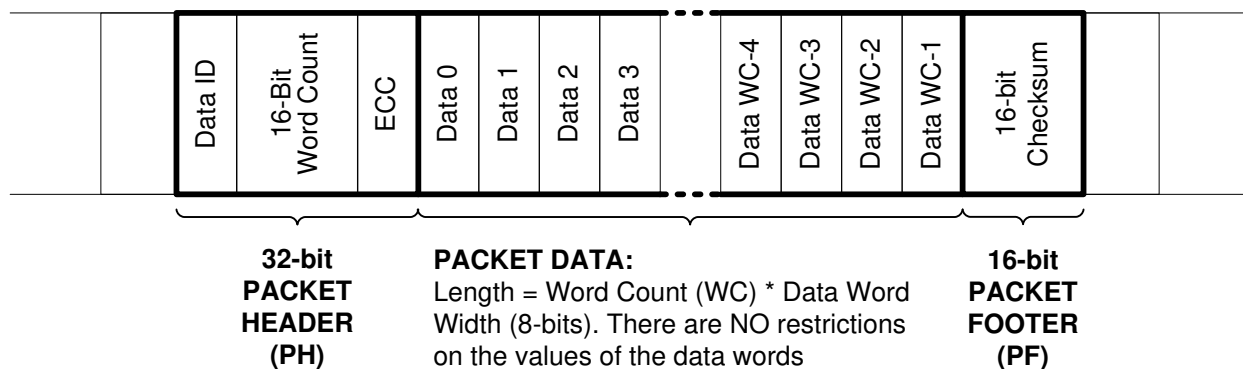

Figure 6-3. CSI-2 Long Packet Structure
A long packet consists of three elements: a 32-bit packet header (PH), an application-specific data payload with a variable number of 8-bit data words, and a 16-bit packet footer (PF). The packet header is further composed of three elements: an 8-bit data identifier, a 16-bit word count field, and an 8-bit ECC. The packet footer only has one element—a 16-bit checksum. Figure 6-3 shows the structure of a long packet.